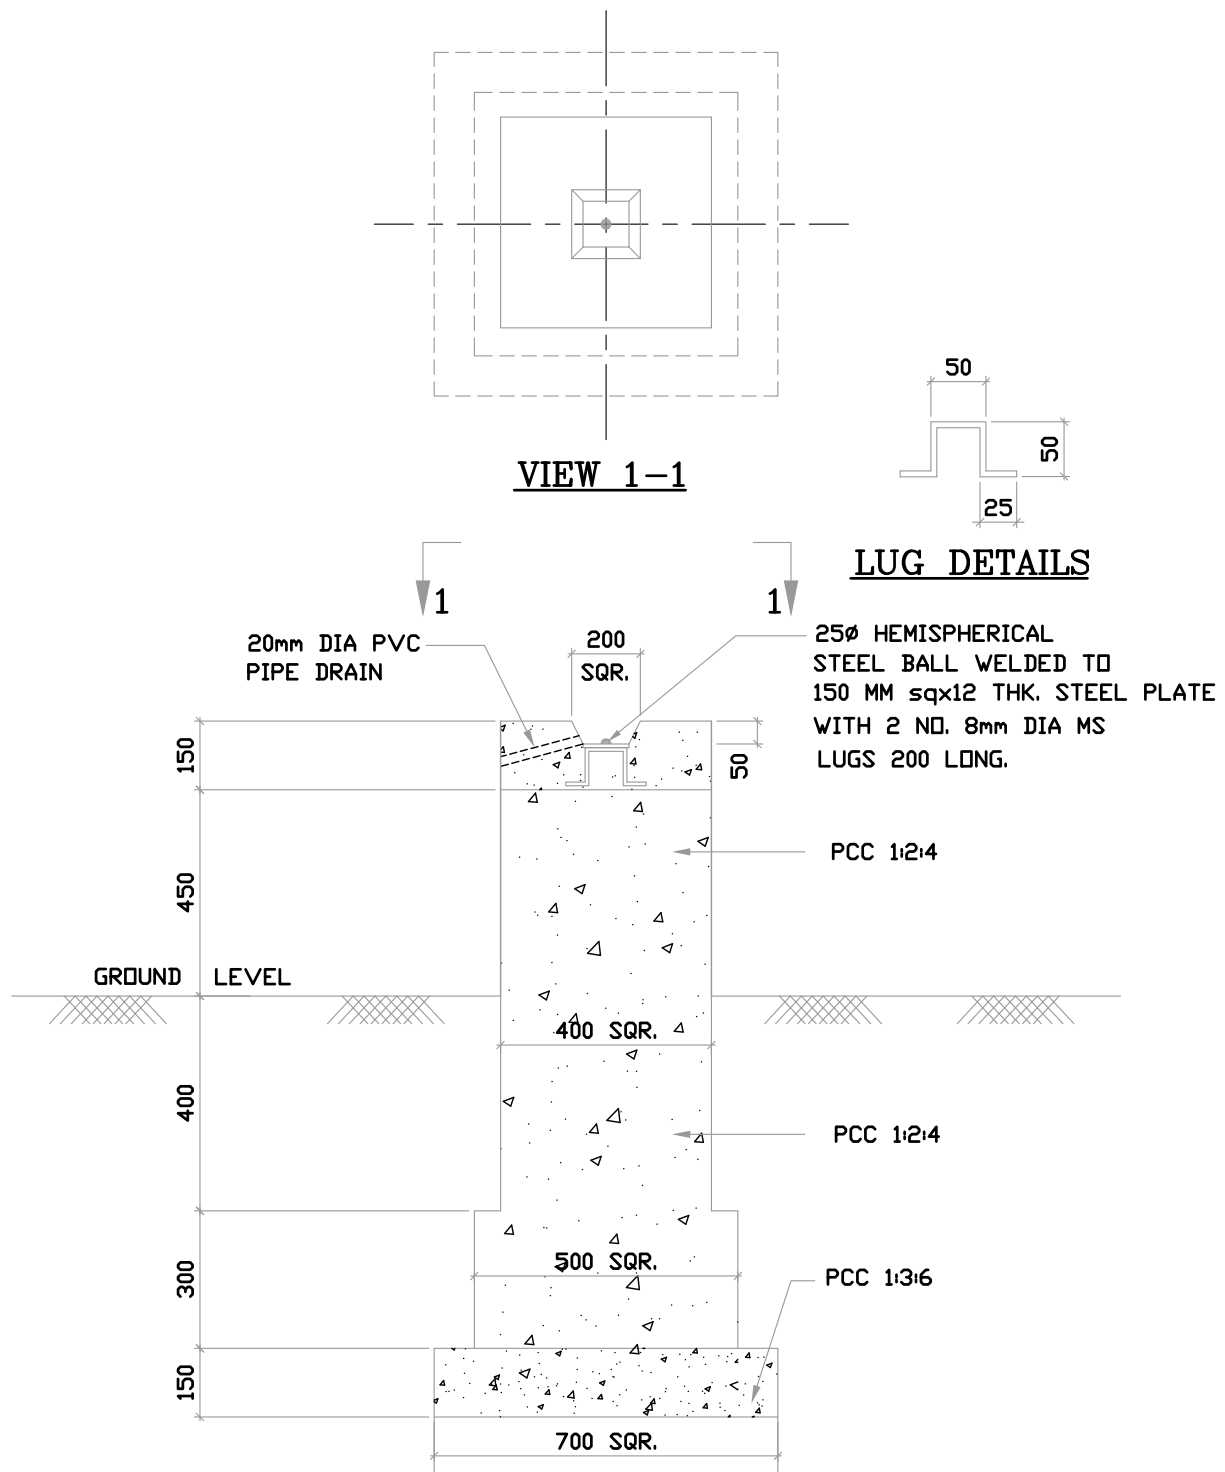

FIG. 1
- 5.1 The contractor shall carry out bench mark by fly-levelling from the nearest GTS bench mark or available source as approved by the engineer-in-charge and establish the same on a permanent bench mark to be constructed as per **Fig.1** at a convenient location(s) at site as per the instructions of the engineer-in-charge. All subsequent transfer of levels shall be carried out with respect to this bench mark.